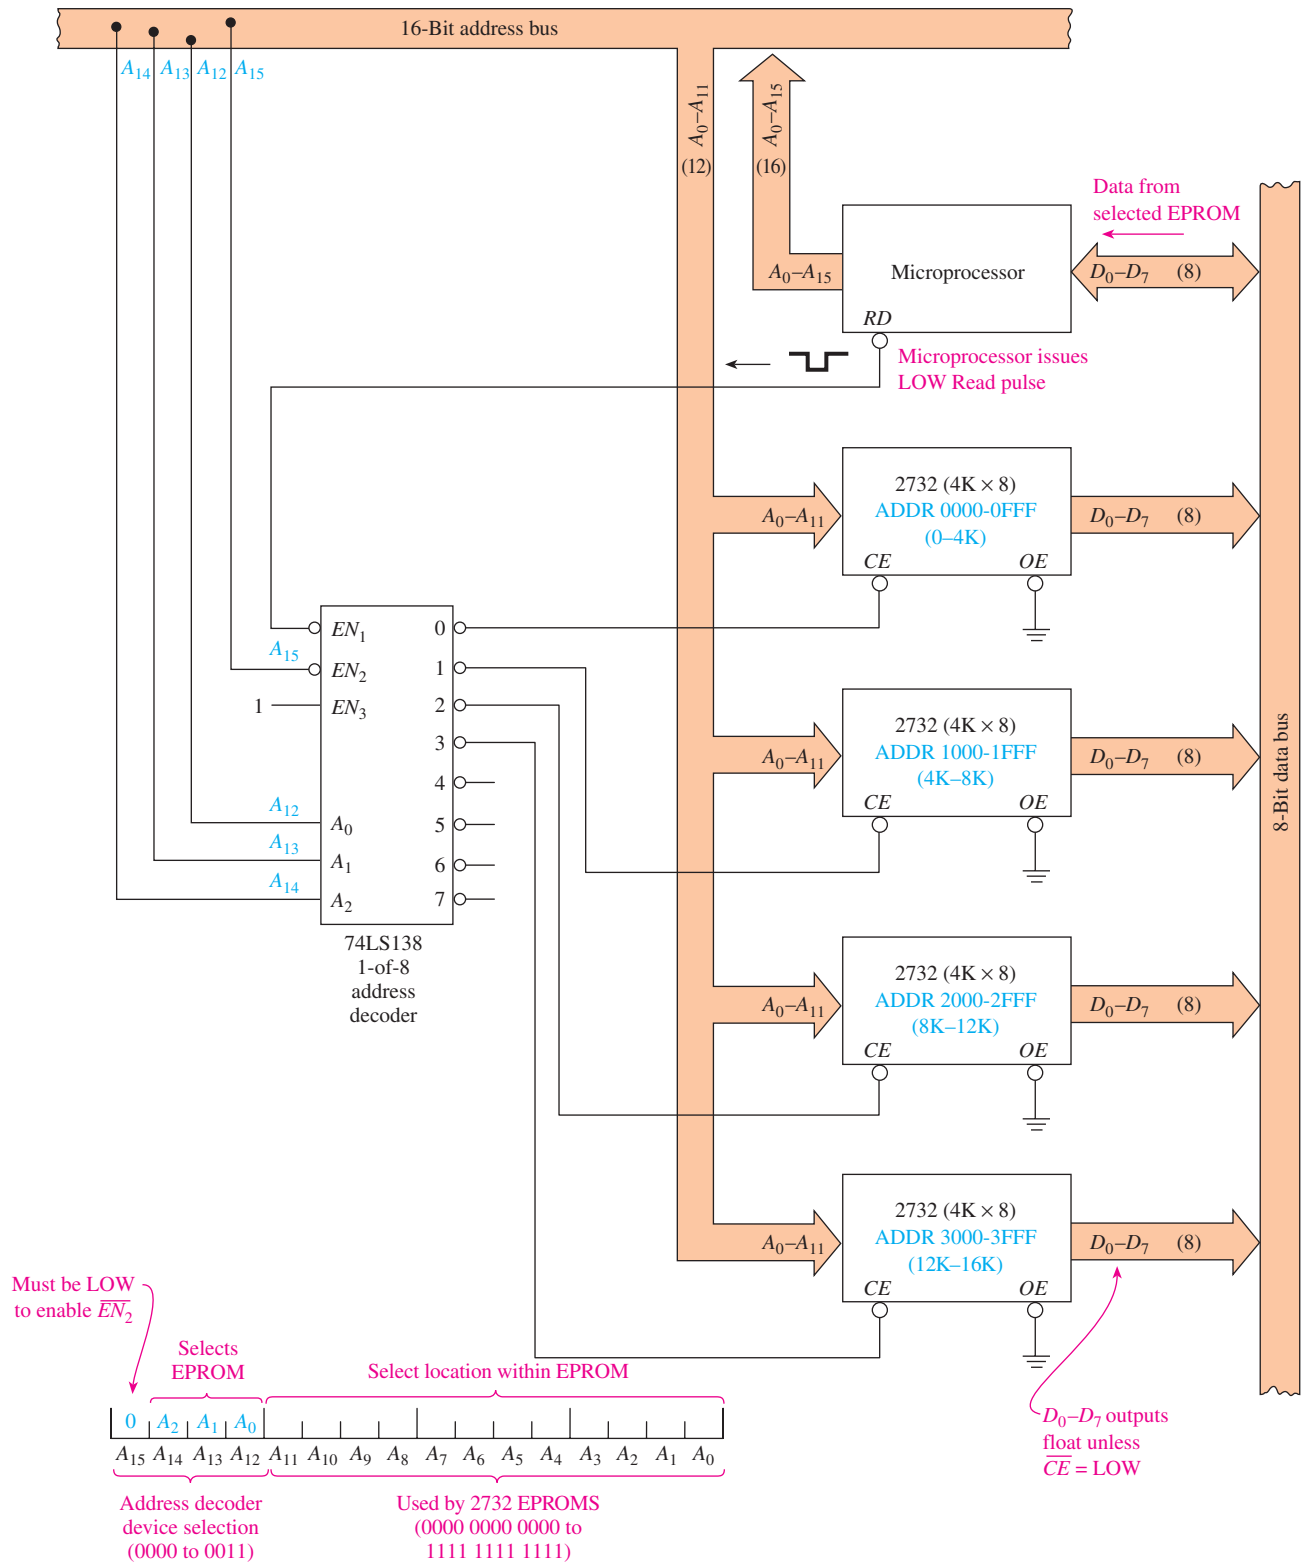

Figure 20 Address decoding scheme for a 16K-byte EPROM memory system.
With 16 total address lines, there will be 64K, or 65,536 ($2^{16} = 65,536$), unique address locations. One 2732 will use up 4K of those. To design a large EPROM memory system, let's say, 16K bytes, four 2732s would be required. The address decoding scheme shown in Figure 20 could be used to set up the four EPROMS consecutively in the first 16K addresses of a computer system.
The four EPROMs in Figure 20 are set up in consecutive memory locations between 0 and 16K and are individually enabled by the 74LS138 address decoder. The $4K \times 8$ EPROMs each require 12 address lines for internal memory selection, leaving the four HIGH-order address lines (A_{12} to A_{15}) free for chip selection by the 74LS138.
The address decoding scheme shown in Figure 20 is a very common technique used for mapping out the memory allocations in microprocessor-based systems (called *memory mapping*). RAM (or RWM) is added to the memory system the same way.
This is a very popular scheme for address decoding (Figure 20). To be sure that you thoroughly understand it, determine the new addresses if A_{15} is moved to the EN3 input.
Determine which EPROM and which EPROM address are accessed when the microprocessor of Figure 20 issues a Read command for the following hex addresses: (a) READ 0007H; (b) READ 26C4H; (c) READ 3FFFH; (d) READ 5007H.
The memory system of Figure 20 can be expanded to 64K bytes by utilizing two 74LS138 decoders, as shown in Figure 21. Address lines A_0 to A_{11} are not shown in Figure 21, but they would go to each 2732 EPROM, just as they did in Figure 20. The HIGH-order addresses (A_{12} to A_{15}) are used to select the individual EPROMs. When A_{15} is LOW, the upper decoder in Figure 21 is enabled and EPROMs 1 to 8 can be selected. When A_{15} is HIGH, the lower decoder is enabled, and EPROMs 9 to 16 can be selected. Using the circuit in Figure 21 will allow us to map in sixteen $4K \times 8$ EPROMs, which will *completely* fill the memory map in a 16-bit address system. Actually, this would not be practical because some room must be set aside for RAM and I/O devices.
22. Determine which EPROM and which EPROM address are accessed when the microprocessor of Figure 20 issues a Read command for the following hexadecimal addresses:
23. In Figure 20, connect A_{15} to EN_3 and ground EN_2 . What is the new range of addresses that will access the second EPROM that was formerly accessed at 1000H through 1FFFH?